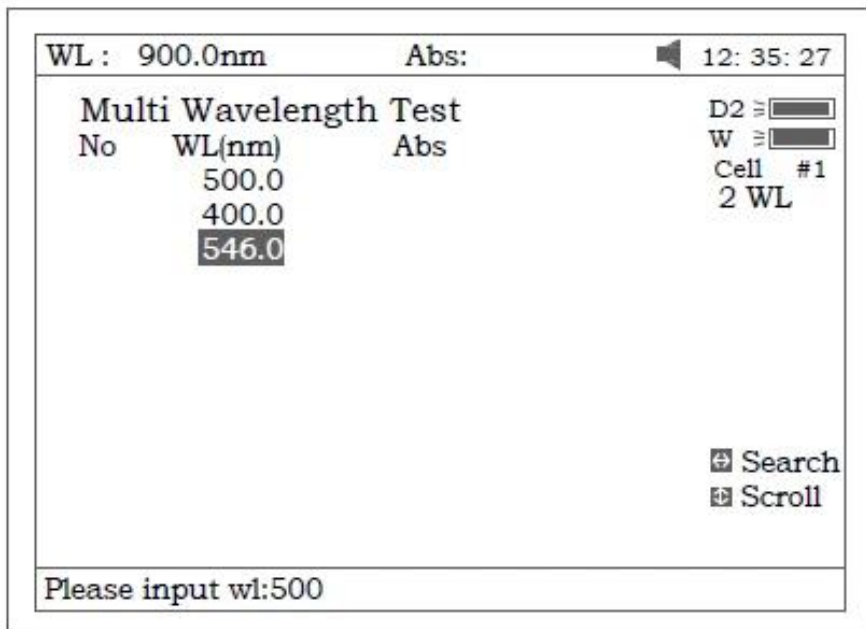

Figure 69
1. Press **【F1】** to setup a group of wavelengths for testing by pressing the numeric keypad followed by **【ENTER】** . (λ) or (ν) to modify the inputted data Fig. 69. Press **【ESC/STOP】** to finish setup and exit.